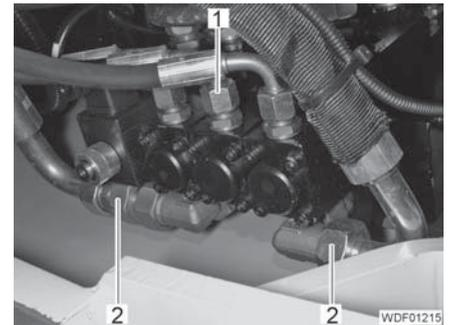

Fig. 167 Topside of the control valve
- Screw the hydraulic lines (Fig. 167,1) onto the connection on the control valve and tighten.
- Screw the hydraulic lines (Fig. 167,2) onto the connection on the control valve and tighten.